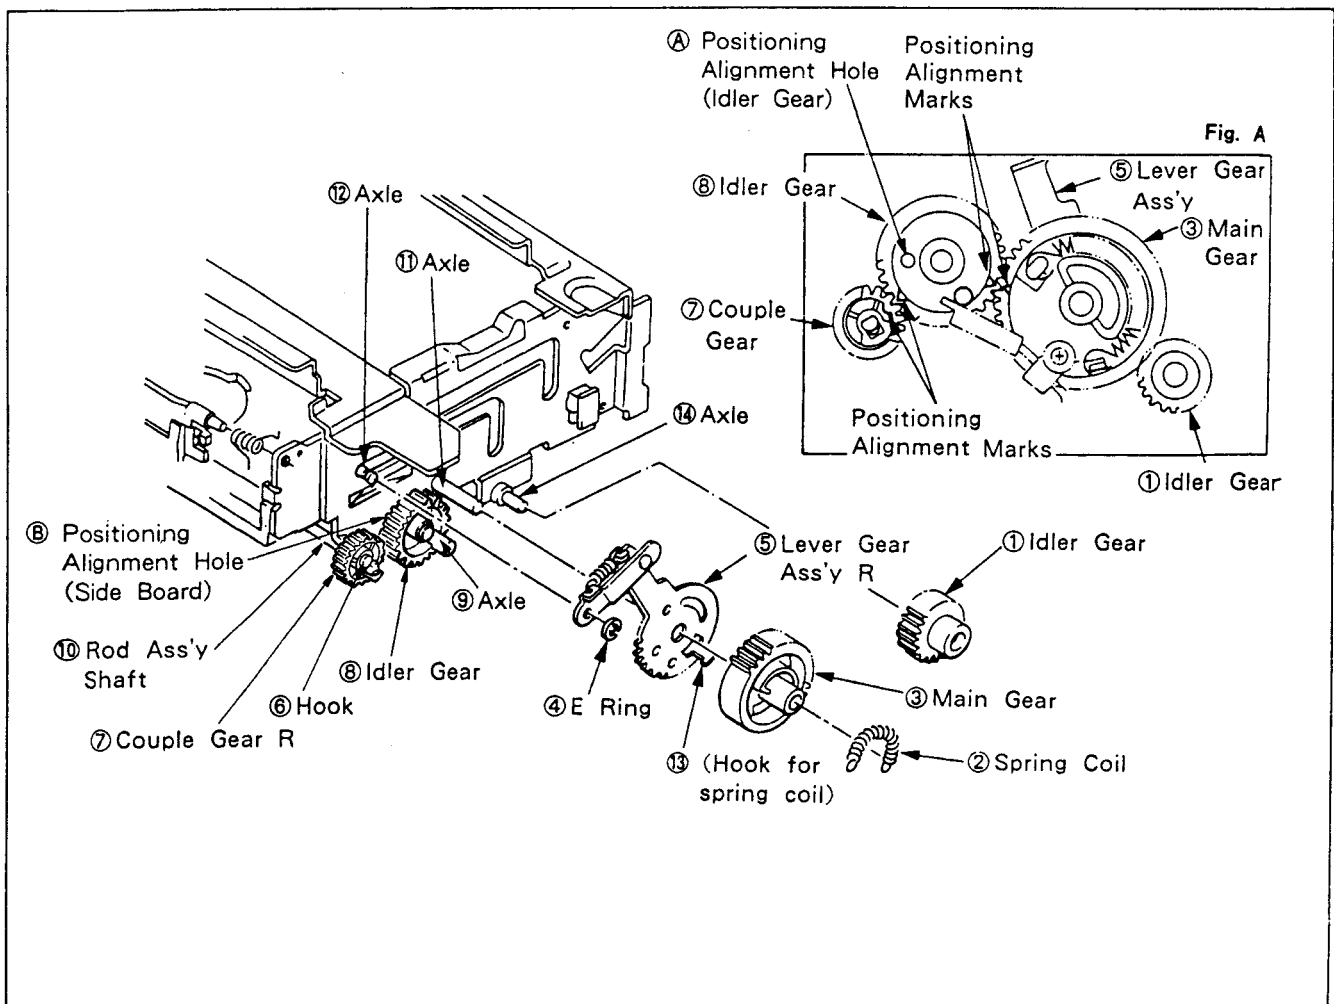

Fig. 4-2-3. Cassette Drive Gears (Right Side)
- 6) Mount the E ring ③ onto the shaft ⑧.
- 7) Set the GEAR BRACKET ASS'Y ② to the dowel and mount it using three screws ①.
Align the positioning alignment hole ⑭ of the IDLER GEAR with the positioning alignment hole ⑮ of the SIDE BOARD as shown in Fig. 4-2-3 at this time.
4-2-3. Cassette Drive Gear (Right) (See Fig. 4-2-3.)